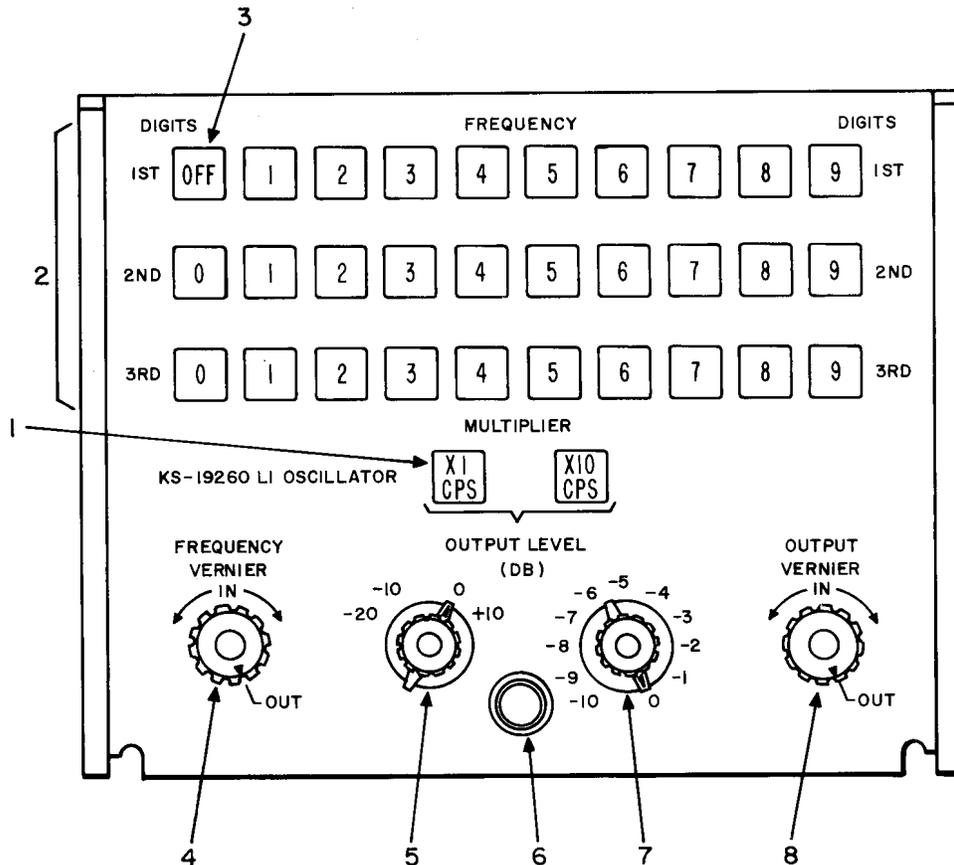

Fig. 4-22—KS-19260,L1 Oscillator
**MISCELLANEOUS TEST EQUIPMENT****KS-19260 L1 Oscillator (Fig. 4-22)**